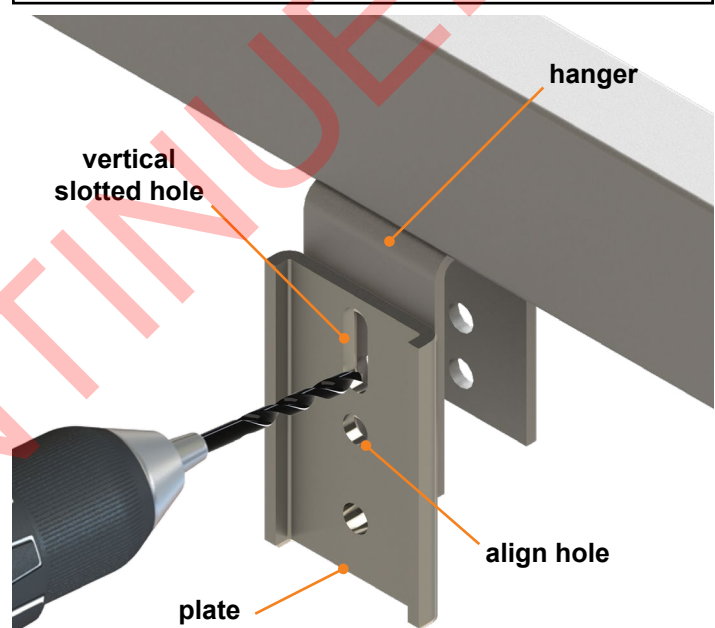

Fig.2
6. Place a hanger plate on the outside of one of the hangers. Align the center hole of the plate with the bottom hole of the hanger (**Fig. 2**).
9. Use a $\frac{1}{4}$ " drill bit to drill a pilot hole. Drill through the vertical $\frac{9}{16}$ " x $1\frac{5}{8}$ " slotted area into the hanger (**Fig. 2**).